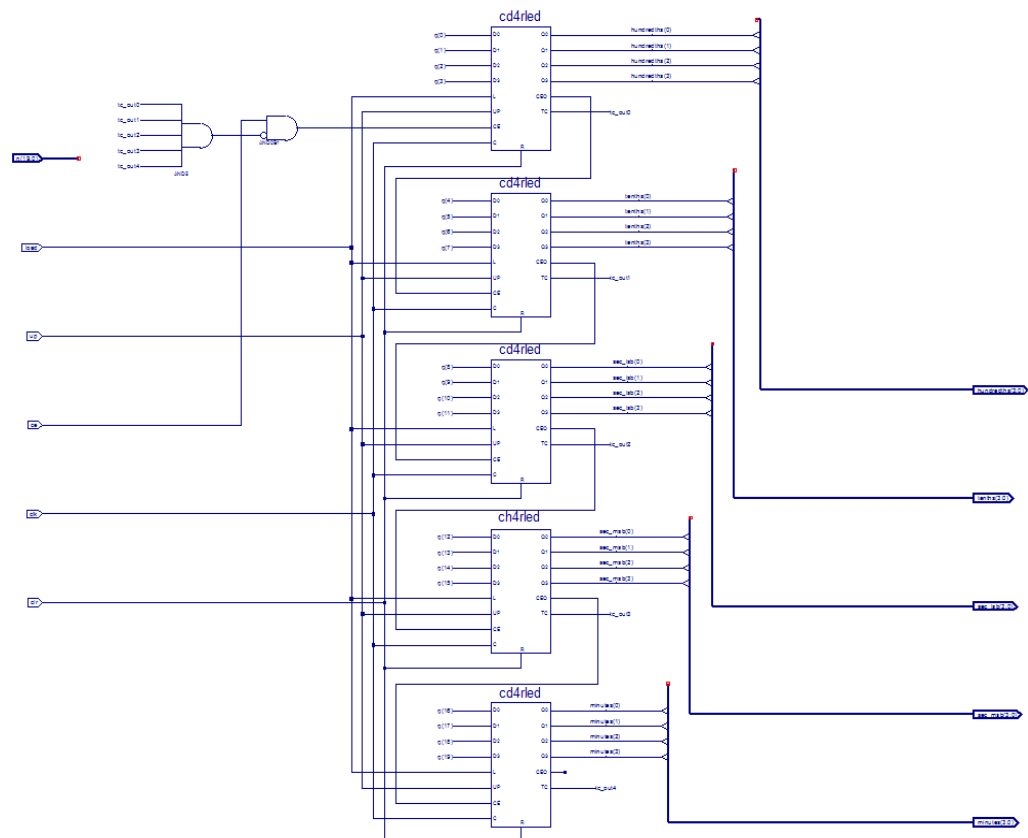

Figure 3-15: Completed time_cnt Schematic
8. Compare your time_cnt schematic with Figure 3-15 to ensure that all connections are made properly.
5. Click successively on each of the nets connected to data inputs, starting from the top so that the net named **q(0)** is attached to the D0 pin of the top counter and the net named **q(19)** is attached to the D3 pin of the bottom counter. Refer to Figure 3-15.